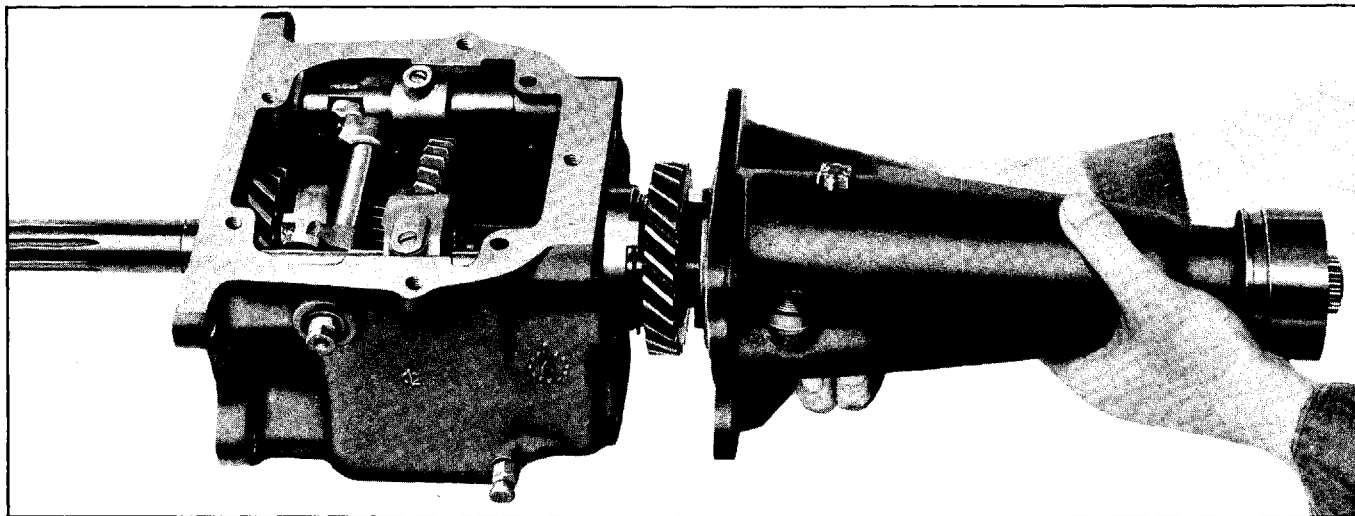

Fig. 7-19 Removing Rear Bearing Retainer
4. Lock transmission in high gear position to prevent sliding sleeve, and first and reverse gear from dropping into bottom of case, and remove rear bearing retainer, mainshaft and second speed gear assembly (Fig. 7-19).